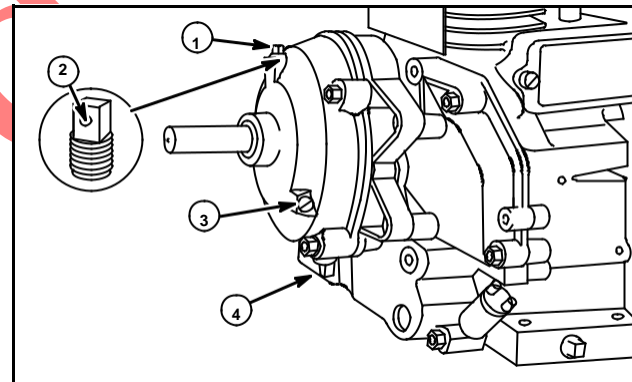

Fig. 2
1. Remove drain plug (4) in bottom of gear case cover and drain oil, Fig. 2.
3. To refill, remove oil check plug (3) and oil fill plug (1) and pour oil into filler hole until it runs out level check hole. Refer to Section 1 for recommended oil service specifications and viscosity.
4. Replace both plugs, making sure oil fill plug with vent hole (2) is installed in top hole, Fig. 2.